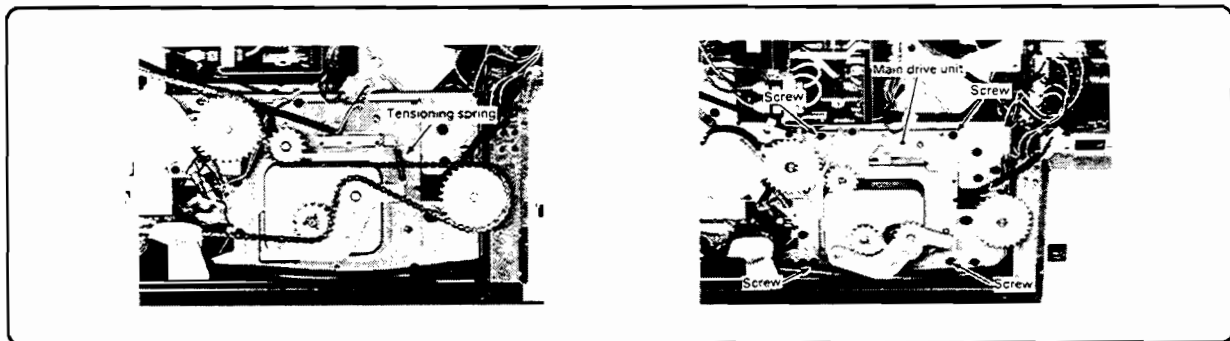

Figure 6-110. Main Drive Motor Removal
3. Remove the chain tensioning spring; then remove the chain from the sprocket (Figure 6-110).
4. Remove the four screws and the main drive motor (Figure 6-110).
2. Remove the chain tensioning spring; then remove the chain from the sprocket (Figure 6-110).